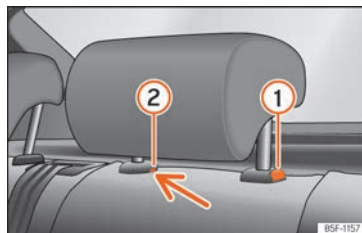

Fig. 68 Rear head restraint: removal.
- Press button >>> Fig. 68 ①, while simultaneously pressing on the safety hole ② with a flat screwdriver a maximum of 5 mm wide, and remove the headrest.